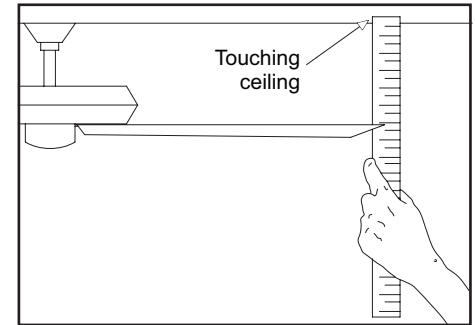

Figure 12
2. Most fan wobble problems are caused when blade levels are unequal. Check this level by selecting a point on the ceiling above the tip of one of the blades. Measure from a point on the center of each blade to the point on the ceiling. Measure this distance as shown in Figure 12. Rotate the fan until the next blade is positioned for measurement. Repeat for each blade. Measurements deviation should be within